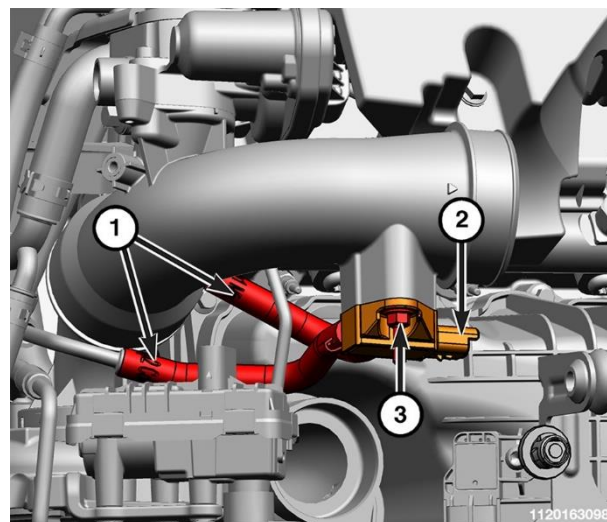

Figure 117 – Differential Pressure Sensor
44. Disconnect the differential pressure sensor hoses (1) (Figure 117).
45. Remove the differential pressure sensor nut (3) and the differential pressure sensor (2) (Figure 117).